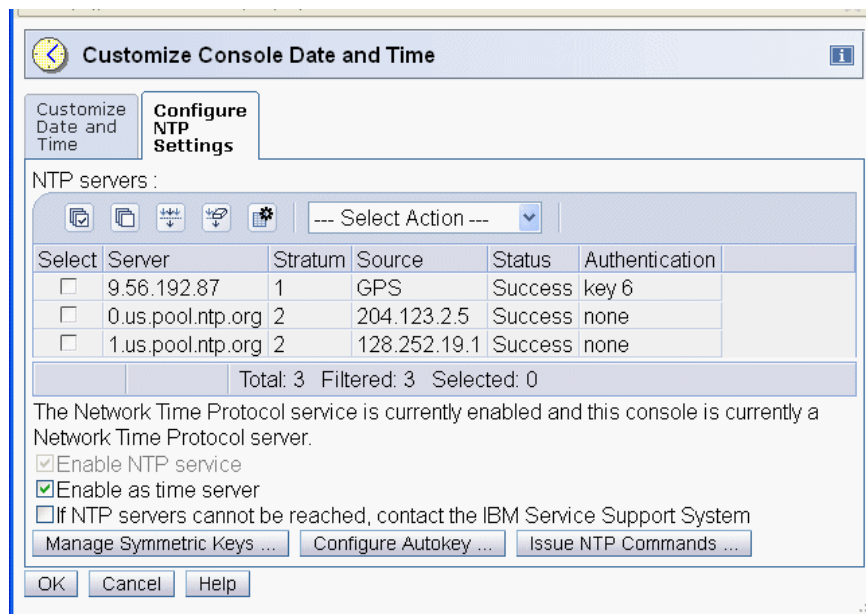

Figure 1-23 Customize Console Date and Time - NTP server function enabled
4. After **OK** is clicked, select **HMC Management** → **Customize Console Date and Time** again, and the Customize Console Date and Time window displays (Figure 1-23).